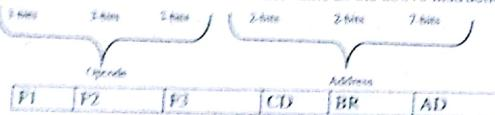

Fig. 13 Microinstruction code format (20 bits)
- As shown in figure 13, in each microinstruction format, the 'AD' field specifies the address of the next microinstruction to be fetched. Now, where the second microinstruction needed is placed in the control memory depends on the BR field and status bits.